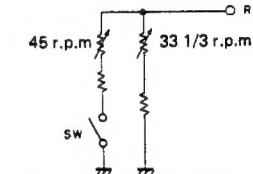

Fig. 5-1 Switching reference frequency
- Since the rotational speed is detected at a fixed frequency, the frequency must be converted to a voltage (DC). This function is performed by the F/V converter.
- Switching reference frequency is shown in Fig. 5-1.